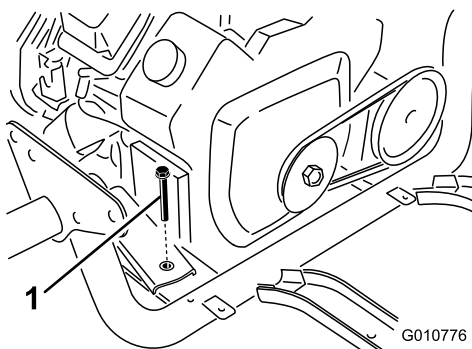

Figure 4
13. Remove the right front engine mount bolt (Figure 4). Retain the bolt for reuse.